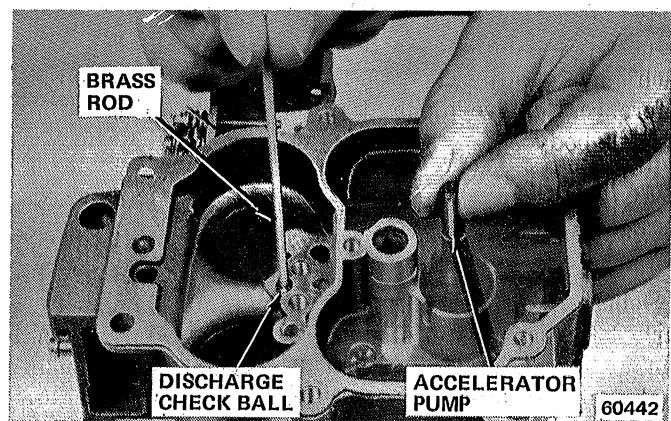

Fig. 1J-106 Accelerator Pump Test
(5) Clean passage and ball seat if leakage is evident. If leakage persists, replace main body.
(6) Install replacement gaskets on venturi cluster, install cluster screws and tighten securely.
(7) Install main metering jets.
(8) Install floats with fulcrum pin and pin retainer in main body. Install needle, seat and gasket and tighten securely. Adjust float level. Refer to Service Adjustment Procedures. Install baffle plate.
(9) Place accelerator pump drive spring on pump plunger shaft and insert shaft into air horn. Compress spring and insert S-link.
(10) Place vacuum piston spring in vacuum piston bore. Position replacement gasket on main body and install air horn. Install solenoid. Tighten retaining screws alternately one turn at a time to compress gasket evenly.
(11) Measure vacuum piston gap. Refer to Service Adjustment Procedures and figure 1J-107. Carefully install step-up piston and metering rod assembly into its bore in air horn. Ensure metering rods are in main metering jets. Ensure metering rod springs are installed properly (fig. 1J-107).